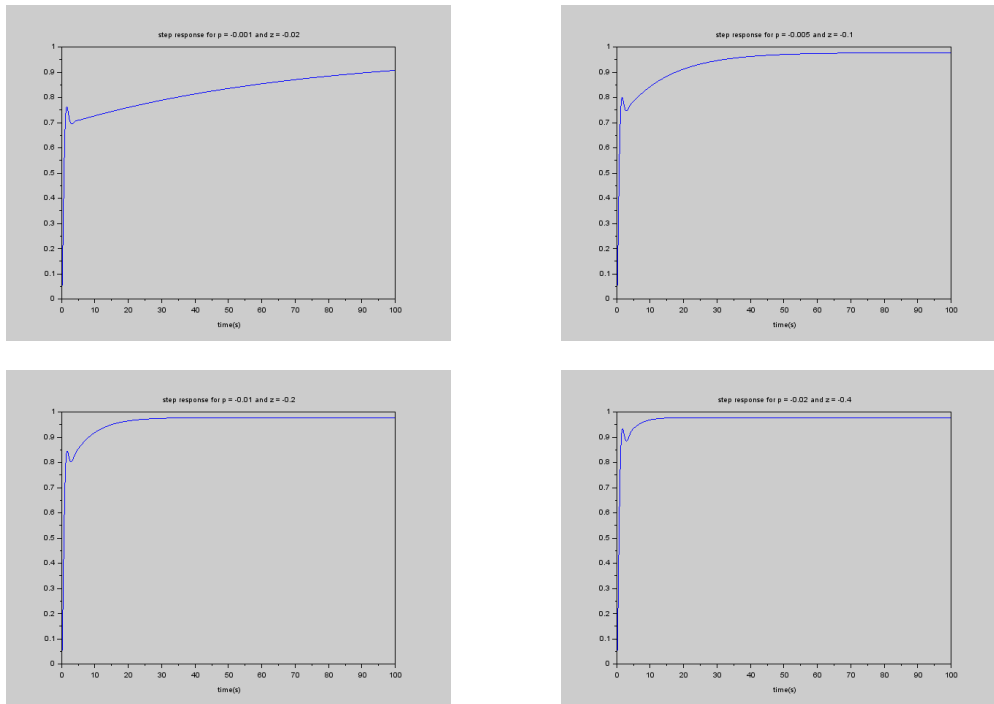

Figure 5: unit step response for different locations of pole and zero of the lag compensator
- (c) The unit step response for different locations of pole and zero of the lag compensator, but with the same ratio are give in Figure 5. As the pole is moved away from origin, the settling time decreases.